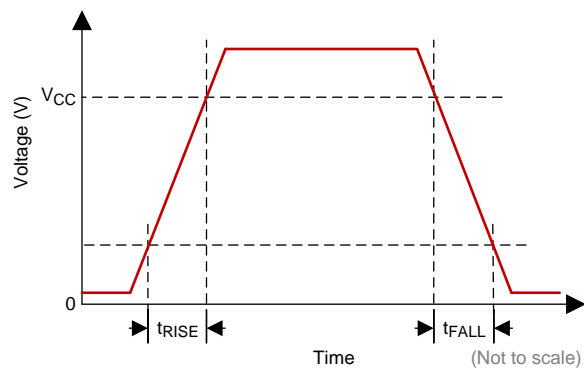

Figure 3. SCP Requirements for Rise and Fall
(1) See Figure 3 for Rise Time and Fall Time for SCP.